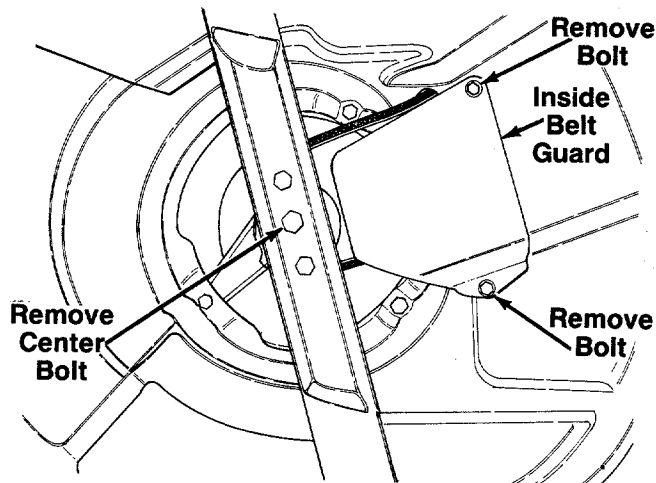

FIGURE 26.
5. Remove the center bolt which secures the blade to the crankshaft. See figure 26. Roll the belt off the pulley. Remove the blade (and blade adapter with pulley).
6. Remove the inside belt guard by removing two self-tapping screws. A $3/8$ " wrench is required. See figure 26.